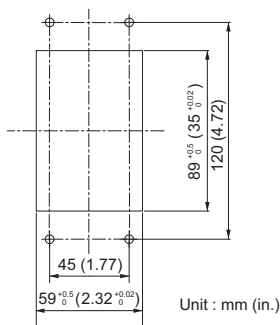

Figure 13 Panel Cut-out Dimensions (Internal/Flush-mount Installation)
1. Cut an opening in the enclosure panel for the option according to **Figure 13**.